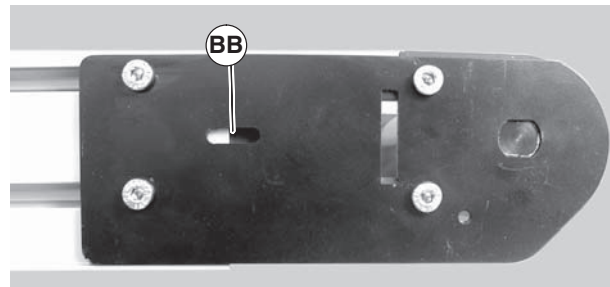

Figure 40
- Extend head plate assembly until proper tension in the belt is achieved. If proper tensioning can not be obtained before the belt life indicator is all black (Figure 40, item BB) the belt must be replaced.